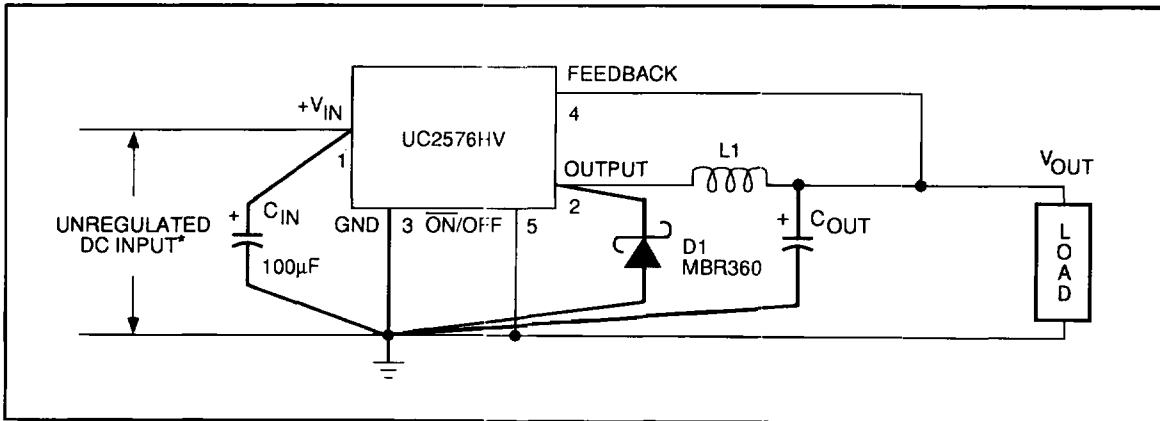

FIGURE 1
**TEST CIRCUIT AND LAYOUT GUIDELINES** (Figure 1)
SYSTEM PARAMETERS (Note 2) Test Circuit Figure 1
ON/OFF CONTROL Test Circuit Figure 1
**Note 2:** External components such as the catch diode, inductor, input and output capacitors can affect switching regulator system performance. When the UC1576/UC2576 is used as shown in the Figure 1 test circuit, system performance will be as shown in system parameters section of Electrical Characteristics
## Typical Performance Characteristics (Circuit of Figure 1)